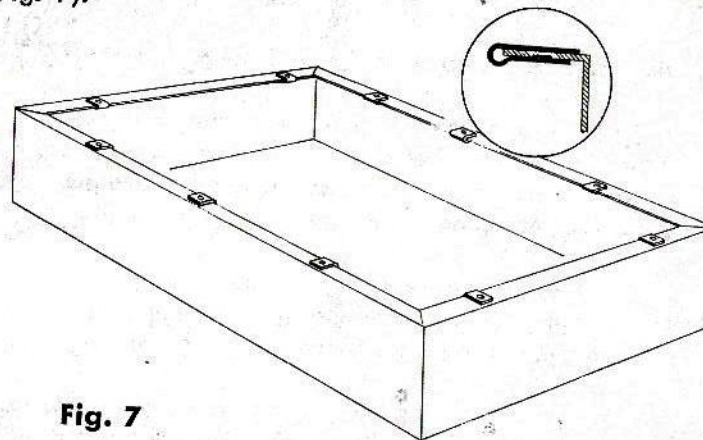

Fig. 7
7) Press a speed nut in place over each hole on the bottom flange of the chassis (see Fig. 7).